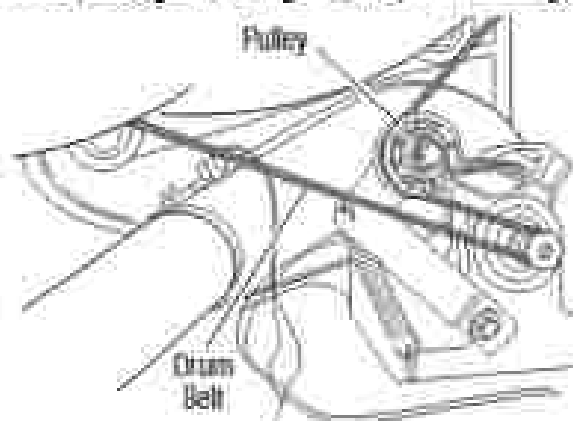

Figure 1 - Slowly remove drum belt.
7. Check the drive motor and belt switch (gas dryer only). Slowly remove the drum belt from the spring-loaded belt switch pulley, gently letting the pulley down. See Figure 1.